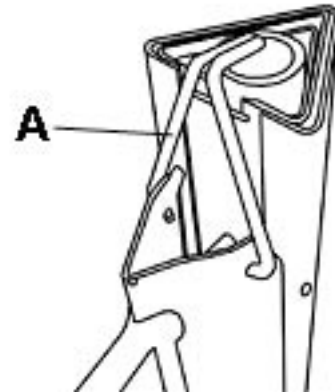

FIGURE 14
- 5) Swing up the retaining hook (A) Fig.14 over the top of the telescopic posts to prevent them from moving during transport or storage.